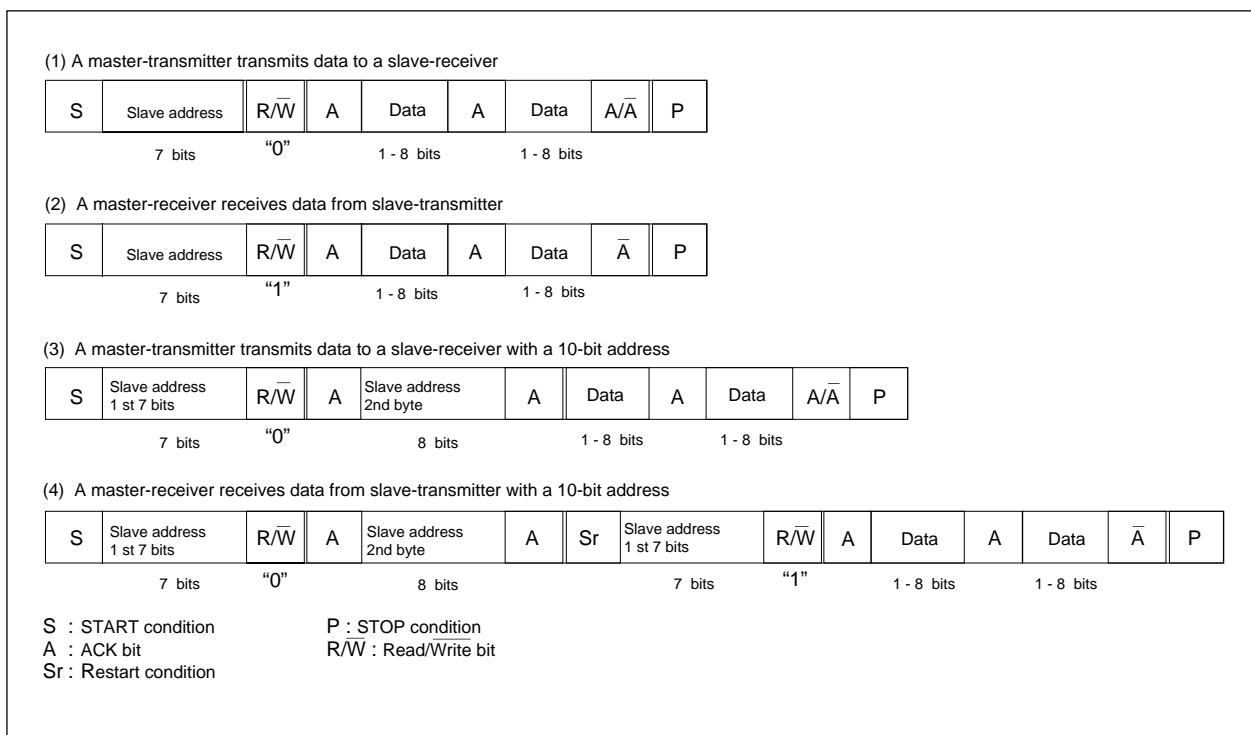

Fig.GC-21 Address data communication format
To adapt the 7-bit addressing format, set the DBIT SAD bit of the I2C control register 0 (address 032316, 033316, 031316) to “0”. The first 7-bit address data transmitted from the master is compared with the high-order 7-bit slave address stored in the I2C address register (address 032216, 033216, 031216). At the time of this comparison, address comparison of the RBW bit of the I2C address register (address 032216, 033216, 031216) is not performed. For the data transmission format when the 7-bit addressing format is selected, refer to Fig.GC-21 (1) and (2).
When the first-byte address data agree with the slave address, the AAS bit of the I2C status register (address 032816, 033816, 031816) is set to “1”. After the second-byte address data is stored into the I2C data shift register (address 32016, 33016, 031016), perform an address comparison between the second-byte data and the slave address by software. When the address data of the 2 bytes agree with the slave address, write “0” to the ACKBIT to I2C clock control register, to return an ACK. When the address data of the 2 bytes do not agree with the slave address, it does not return an ACK so that makes the finish of the communication by writing “1” to the ACKBIT. If the address data agree with each other, set the RBW bit of the I2C address register (address 032216, 033216, 031216) to “1” by software. This processing can make the 7-bit slave address and  $\overline{R/W}$  data agree, which are received after a RESTART condition is detected, with the value of the I2C address register (address 032216, 033216, 031216). For the data transmission format when the 10-bit addressing format is selected, refer to Fig.GC-21(3) and (4).